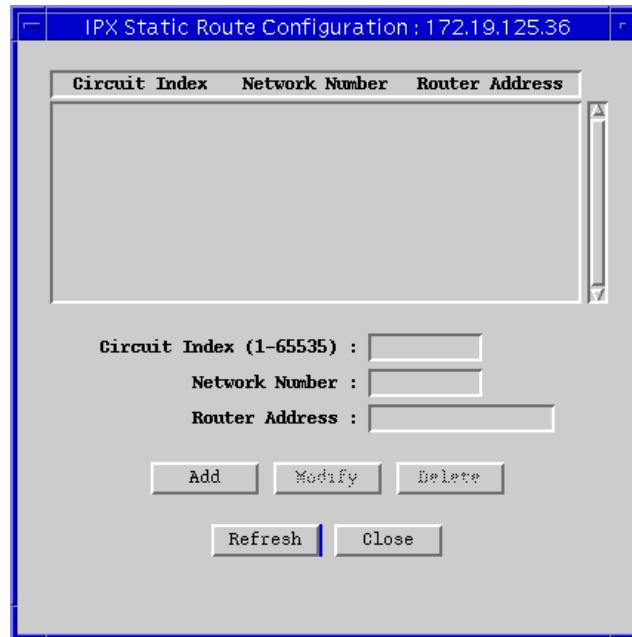

Figure 10-4. The IPX Static Route Configuration Window
2. Drag down to **IPX Static Route Configuration**, and release. The IPX Static Route Configuration window, Figure 10-4, will appear.